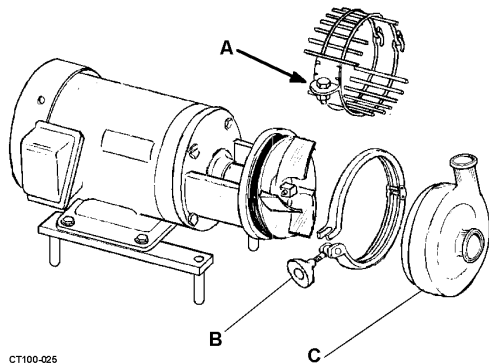

Figure 14 - Casing Assembly
4. Using a wrench, remove the seal guard assembly (see Figure 14, item A).
6. Remove the casing and inspect the clamp saddles and the casing for damage or wear. Replace if necessary. (See Figure 14, item B and C.)
2. Using a wrench, remove the seal guard assembly (See Figure 14, page 15, item A).
4. Remove the casing and inspect the clamp saddles and the casing for damage or wear and replace if necessary (see Figure 14, items B and C on page 15).